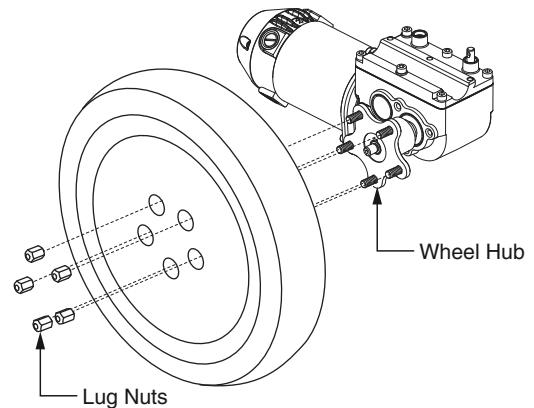

Figure 21. Drive Wheel
4. Remove the five (5) lug nuts from the wheel hub. **See figure 21.**